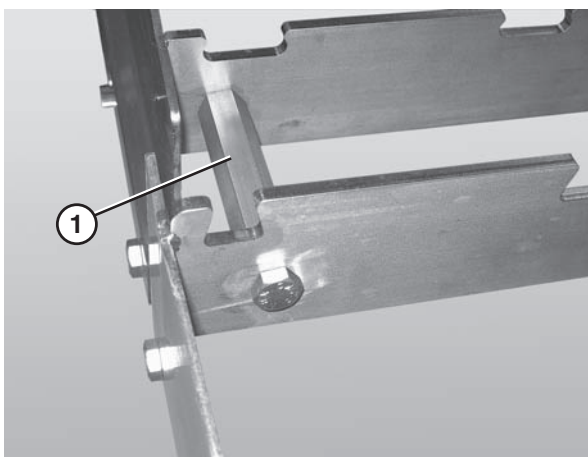

Figure 7
- Connect the frame sections by bolting the hex post connectors (**Figure 7, item 1**) to the cross member supports of each frame section.